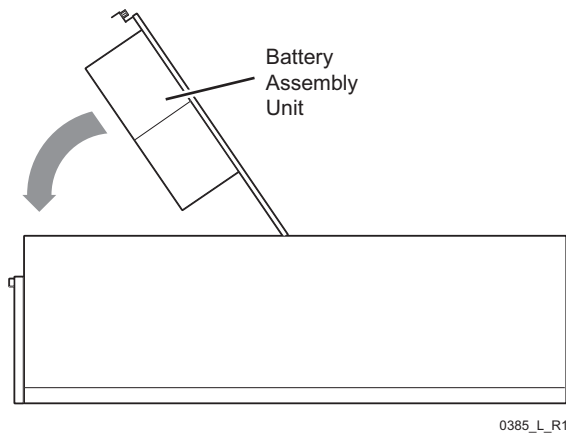

Figure 20-2. Flip the Battery Assembly into the Power Supply
- 4 Flip the battery module over (Figure 20-2).